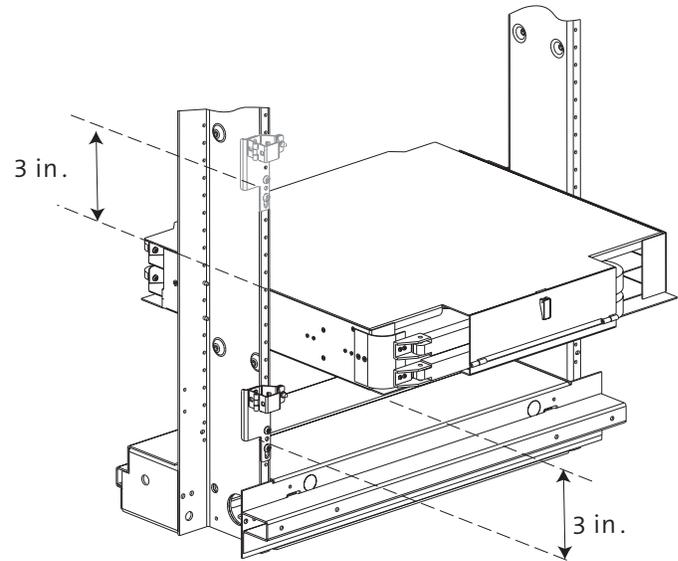

Figure 3
Step 2: Position the first OMS housing into the rack at the lowest possible mounting position (Figure 3) allowing for the presence of the UCC.